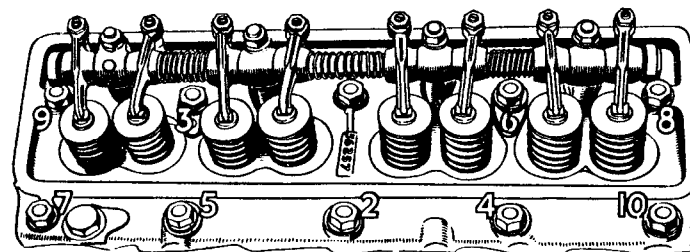

Fig. 11. The correct sequence in which to tighten the cylinder head nuts
4. Easing each nut a little at a time, undo the 10 cylinder head holding nuts in the order shown in Fig. 11. If not done in the correct order there is a risk of distortion of the cylinder head.
guides will cause excessive wear leading to heavy oil consumption. Dirt in the inlet ports could be sucked into the cylinders and score the walls, leading to less efficient compression and increased oil consumption. Lightly coat a new cylinder head gasket with sealing compound: Wellseal is very good: and tighten the cylinder head holding nuts down a little at a time in the sequence shown in Fig. 11. to a final torque of 105 ft/lbs. with a torque wrench. Replace the pushrods and rocker shaft and set the valve clearances as described on page 58. Reconnect the various ancillaries. After a few miles the cylinder head should be tightened down again to 105 ft/lbs. when hot and the tappet clearances checked.
- (1) remove rocker cover, and the rocker shaft, easing each of the 4 bolts at a time.
- (2) lift out pushrods.
- (3) undo the 10 cylinder head holding nuts a little at a time and strictly in the order shown in Fig. 11.
- (4) lift off the head, and remove the gasket and hurl it far into the darkness of the night. Do not use it again.
- (5) using a valve spring compressor, remove the valves, marking them so that they can be returned to the same position.